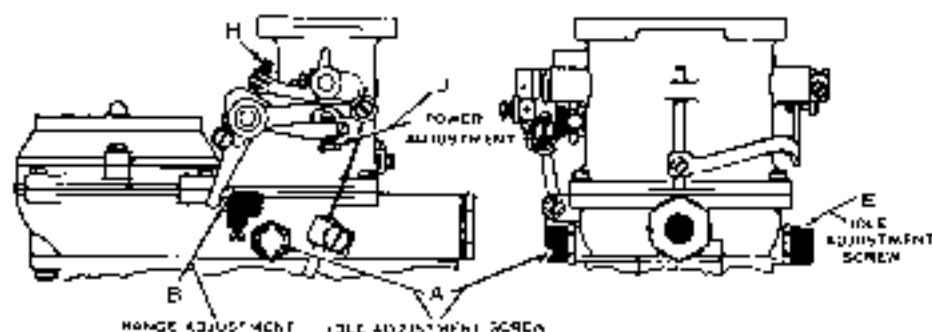

Fig. 10
Idle Adjustment.—The duplex carburetor has two idle adjustments (A, Fig. 10) and (E). Before making any carburetor adjustments warm up the motor to average driving temperature. Both adjustments (A) and (E) turn in the same direction for rich and lean. Turning these adjustments to the right (clockwise) makes the mixture leaner and to the left (counter-clockwise) makes the mixture richer.
The adjustment is made by turning the range adjusting screw (B, Fig. 10) to the left for a lean mixture and to the right for a rich mixture in the driving range.
Power Adjustment. The carburetor will give the best mixture for speed and maximum power on the hills when the bottom of the head of power screw (J, Fig. 10) is setting so that it measures $7/32$ inch to the arm that holds screw (J). On the later Duplex carburetors there is a small pin located at the side of screw (J) and the original factory setting is to have the bottom of the head on screw (J) flush with the bottom of the pin. In high altitudes more power can be obtained by leaning up on the power mixture—turning screw (J) to the left (counter-clockwise) 3 to 5 complete turns. Turning screw (J) to the right richens the power mixture.